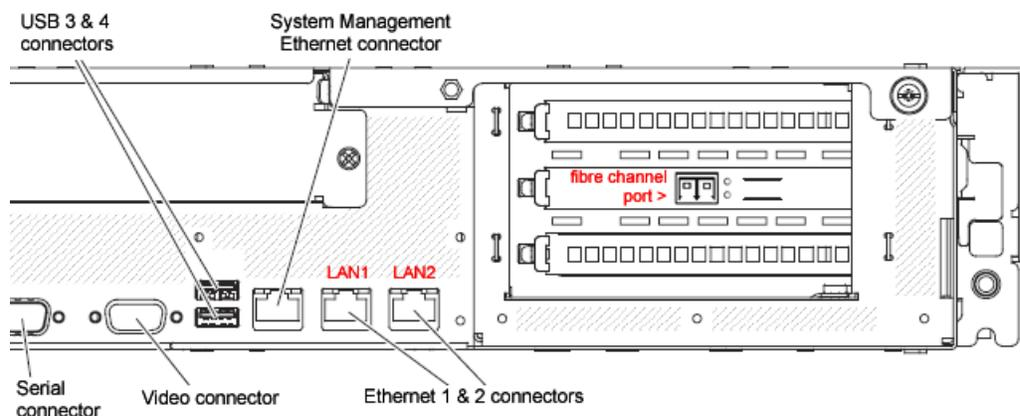

Figure 2: Diagram showing right portion of SR 735 chassis rear
- A. Plug one end of the CAT-5E crossover cable into the SR unit's LAN 2 port (see Figure 2, LAN2 port on a 735 model).
- B. Plug the fibre channel cable into the port in the middle slot on the right section of the SR unit (see Figure 2, fibre channel port on a 735 model).